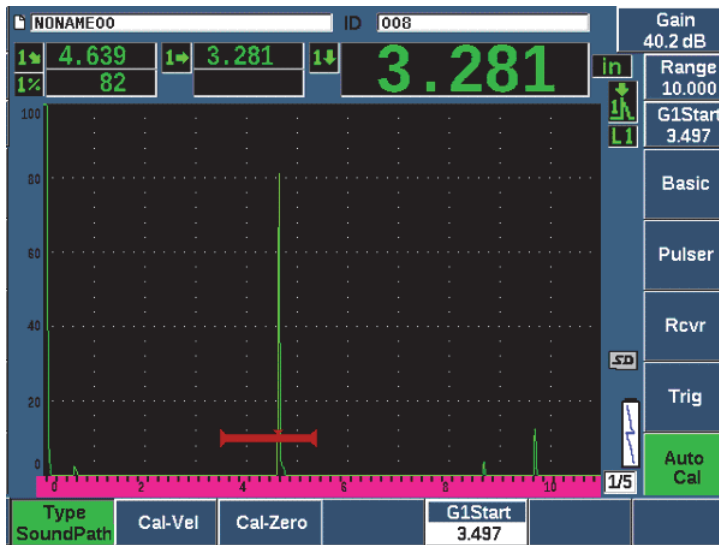

Figure 9-22 Example of a gated signal for velocity calibration
7. Use the G1Start button (P5 key) to position gate 1 so that the second echo reflection from the arc of the block is within the gated region. This reflection should be close to 225 mm (9 in.) (see Figure 9-22 on page 184).